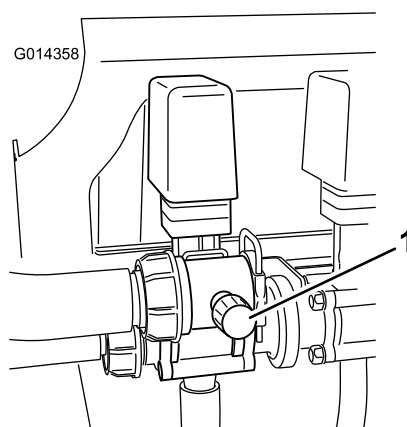

Figure 25
9. Adjust the agitation bypass valve (Figure 25) on the backside of the agitation valve until the pressure reading on the gauge is 689 kPa (100 psi).